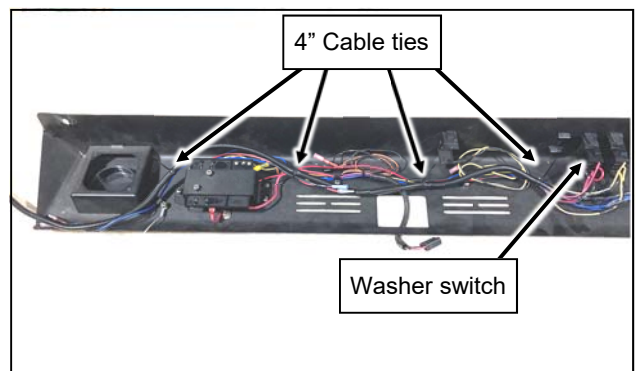

Fig. 3.6
- 3.6 Secure the wires between the fuse block and washer switch to the rest of the wires in the console with 4" cable ties. Route the loom-covered wires out past the side of the console panel. See figure 3.6.